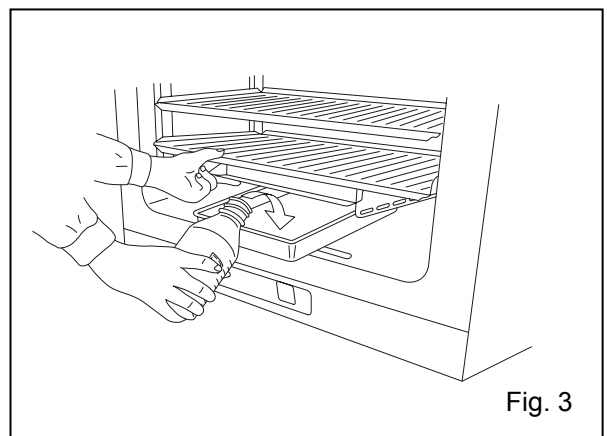

Fig. 3
5. Take out the humidifying pan. See Fig. 3
5. Place the pan under the pan cover and pour the sterile distilled water (about 1.5 liters) into it. See Fig.3. Make sure that the water is pre-heated at 37°C.